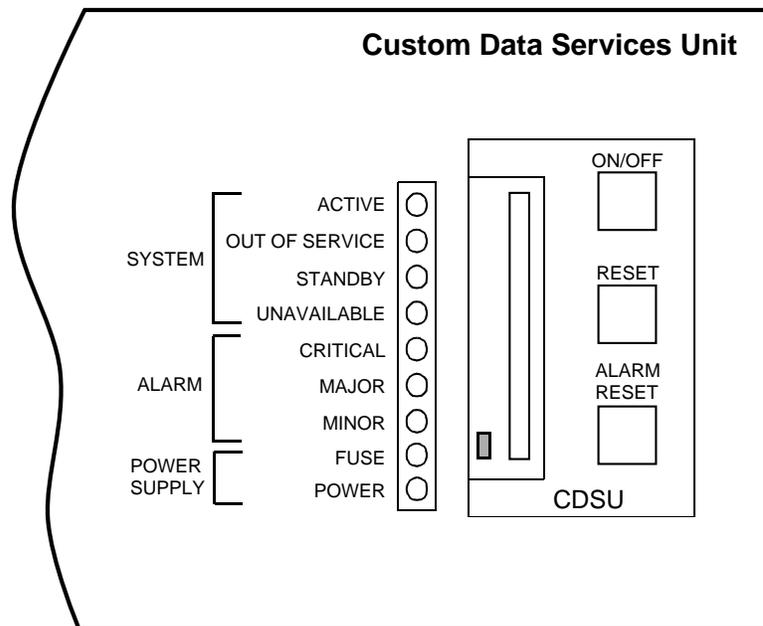

Figure 1. The CDSU-I Control Panel
2. Remove power from the CDSU-I by moving the **ON/OFF** switch on the CDSU-I control panel (Figure 1) to the OFF position.